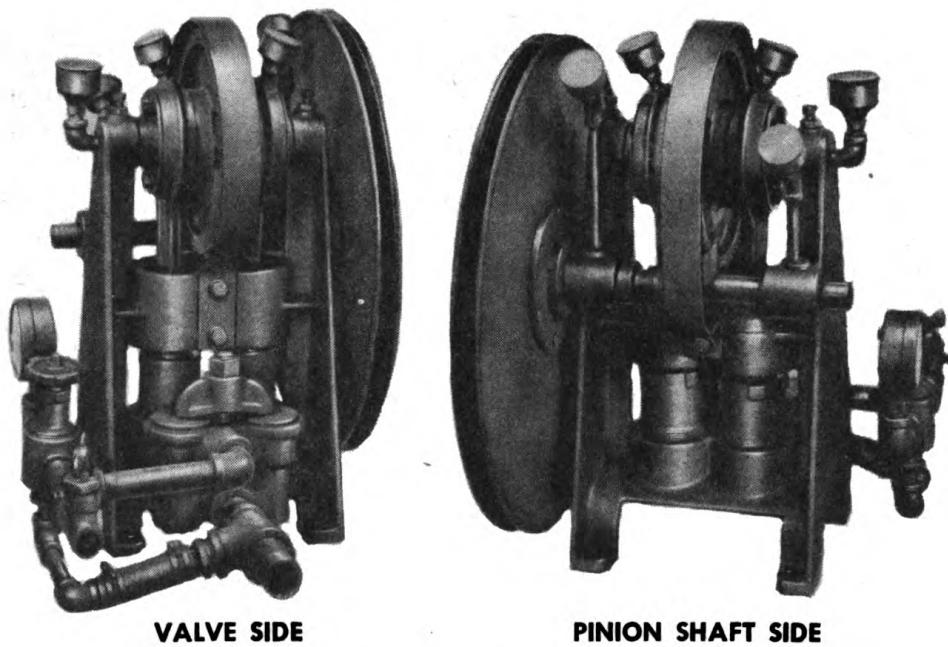

Figure 4—Sprayer Pump
c. **Pump.**—The sprayer pump (figure 4) is a two cylinder, plunger type pump, capable of delivering $3\frac{1}{2}$ to 4 gallons per minute at three to four hundred pounds pressure. The foregoing performance is obtainable at normal operating speed; 100 to 120 revolutions per minute. The pump is $1\frac{3}{4}$ inch bore and $1\frac{3}{4}$ inch stroke and equipped with porcelain lined cylinders. The plunger packings are fabric and "Buna N" (synthetic rubber) material, especially designed to withstand operation on fuel oil or distillates, and are self expanding. The pump is equipped with bronze valve balls which seat in threadless cages.